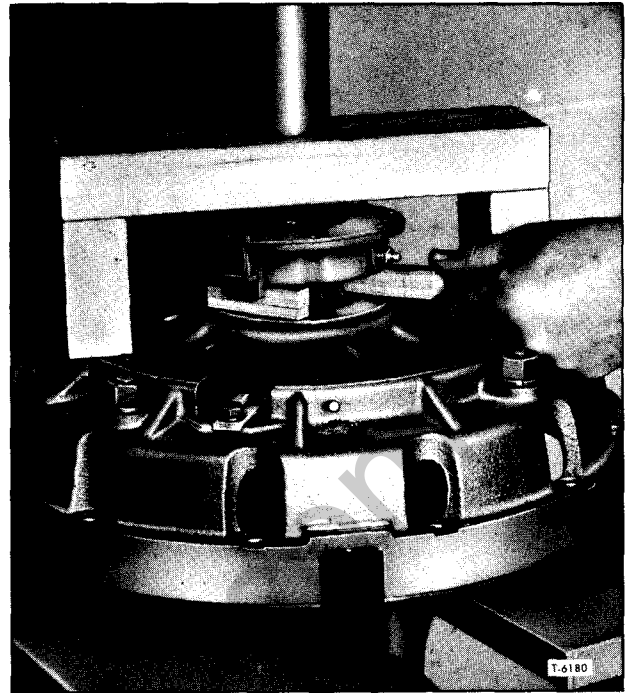

Figure 10—Installing Blocks Between Release Bearing and Spring Plate Hub
b. Use the 2 x 4 bridge as shown in figure 10 to compress the pressure springs and install the two ¾-inch blocks between the release bearing and spring plate hub.